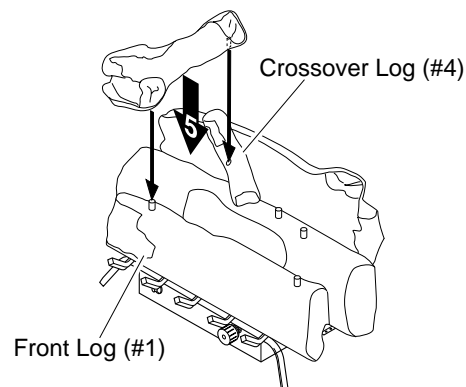

Figure 31 - Installing Crossover Log (#5)
5. **For CCL3924NT and CCL3930NTA Only:** Locate peg and hole on the bottom of crossover log (#5). Slide the peg into the hole located in crossover log (#4). Slide the hole onto the peg on front log (#1). See Figure 31.